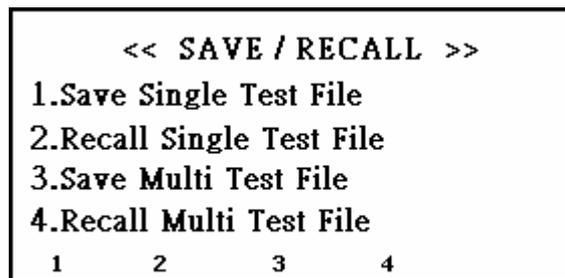

Figure 9
- (1) **TEST button:** Press this button to trigger the test.
- (2) **ABORT button:** Press this button during test to abort the test. If test result is fail, red light will turn on and buzzer will alarm. To stop red light and buzzer, also press this button.
- (3) **RESET button:** Press this button to reset system.
- (4) **SAVE/RCL button:** Press this button to enter SAVE/RECALL display as figure 9.